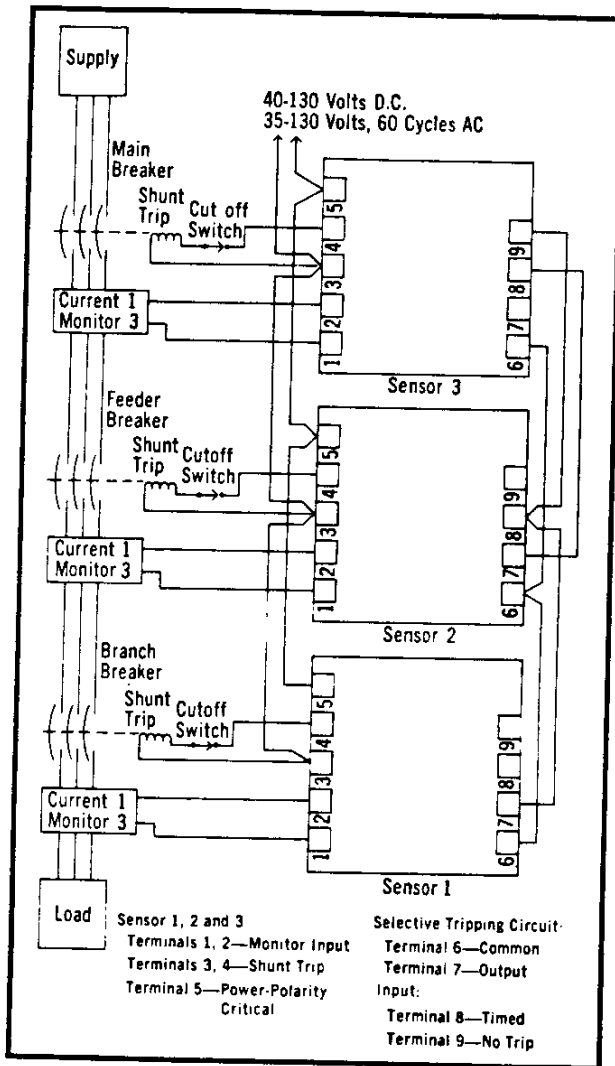

Fig. 5 - Sample Wiring Diagram
If the upstream sensor is required to time, if the fault persists, then the output signal is sent to the timed input, terminals 6 (common) and 8 (timed). If the "up stream" sensor is not allowed to trip, then the output signal is sent to the no-trip input terminals 6 (common) and 9 (no-trip). The common (6) terminals are connected together. See Fig. 5. The pickup and time settings are made as if there were no interlocked tripping circuit.